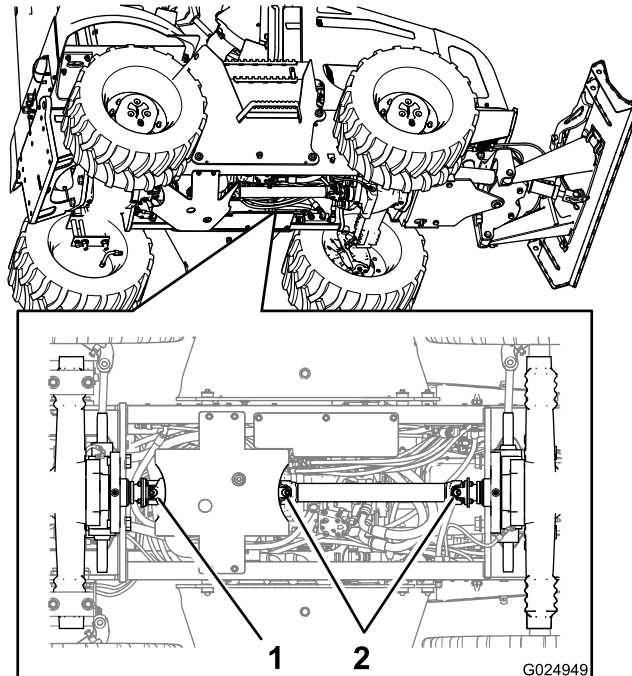

Figure 62
2. Connect the grease gun to the grease fitting for the slide coupling at the forward end of the drive shaft, and apply 2 or 3 pumps of grease to the fitting (Figure 62).
3. Connect the grease gun to the grease fitting for the universal joint at the forward end of the drive shaft, and apply 2 or 3 pumps of grease to the fitting (Figure 62).
4. Connect the grease gun to the grease fitting for the universal joint at the back end of the drive shaft, and apply 2 or 3 pumps of grease to the fitting (Figure 62).